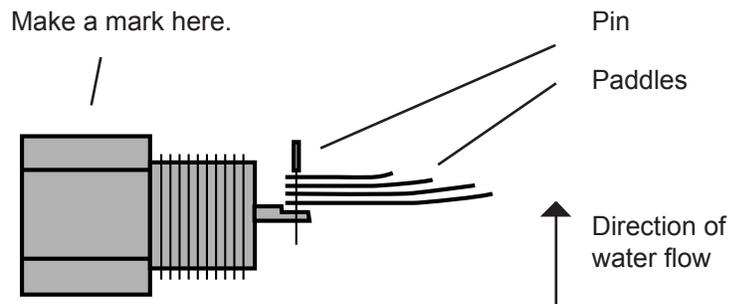

Fig. B10-4 - Attaching the paddles
- The flowing water should hit the longer paddle first. See Fig. B10-4.